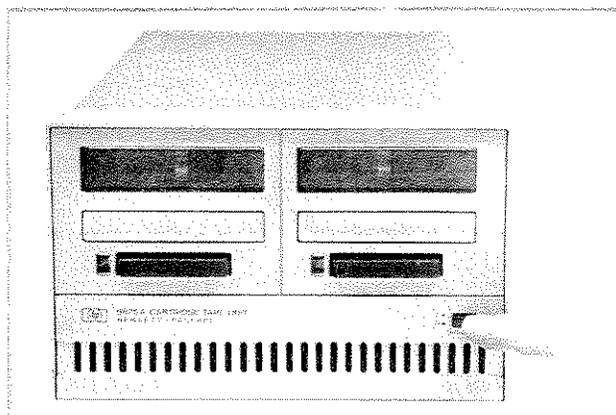

Figure 2-7: Enabling Power to the CTU
5. Enable power by depressing the switch on the front panel (Figure 2-7).